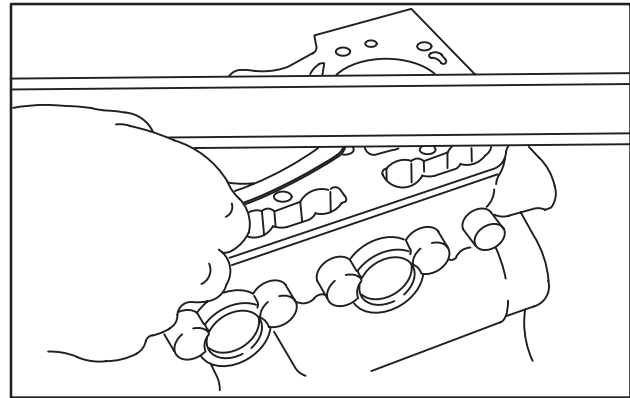

Fig. 1 – Checking Cylinder Block
1. Check cylinder block deck for distortion, Fig. 1.